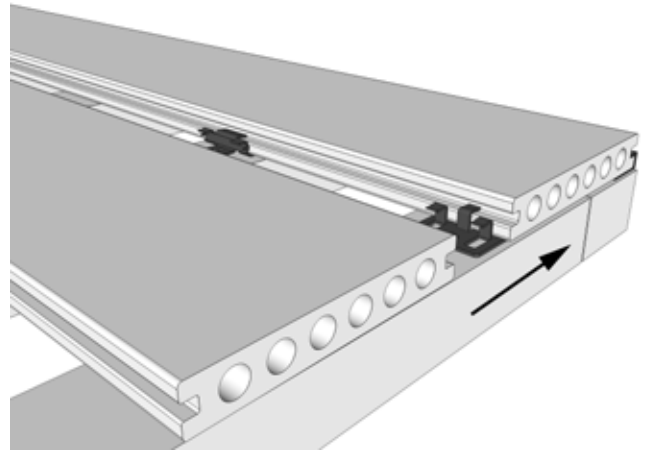

Figure 12
- 3 Layout the second board, as shown in Figure 12: